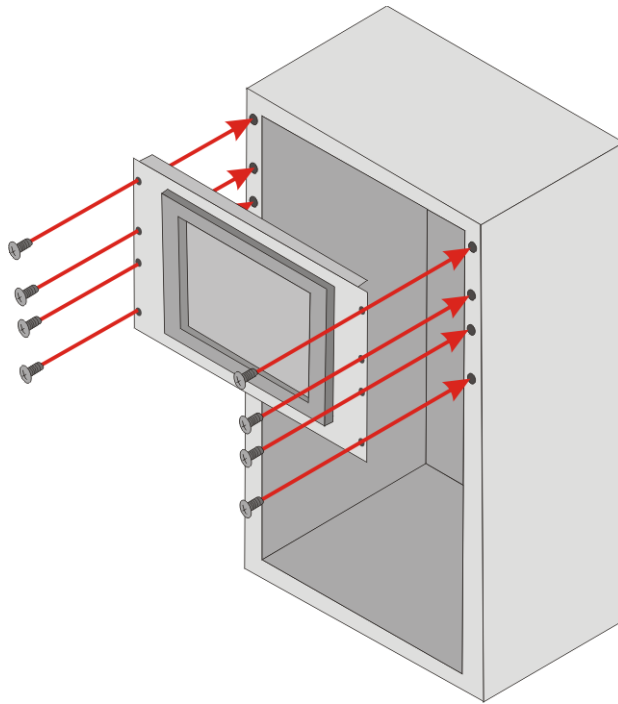

Figure 3-35: Installing into a Rack/Cabinet
Step 4: Slide the PPC-3708A-N26 panel PC with the attached rack/cabinet bracket into a rack or cabinet (**Figure 3-35**).
Step 5: Once the panel PC with the attached rack/cabinet bracket has been properly inserted into the rack or cabinet, secure the front of the rack/cabinet bracket to the front of the rack or cabinet (**Figure 3-35**).